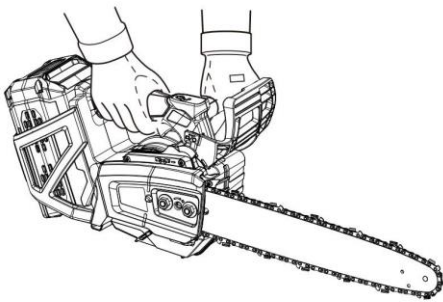

Fig 3
- Keep a good firm grip on the saw with both hands (Fig 3), with the right hand on the rear handle and the left hand on the front handle, when the unit is running. Use a firm grip with thumbs and fingers encircling the chainsaw handles. A firm grip will help you reduce kickback and maintain control of the saw. Two hands must be used to control the saw at all times.